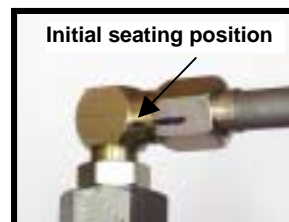

Fig.A2 Mark finger tight position
5. Mark nut and adjacent fitting surface to indicate initial seating position. See Fig.A2.